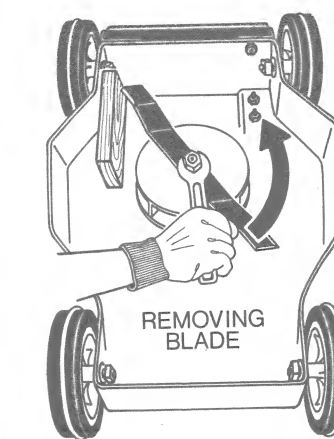
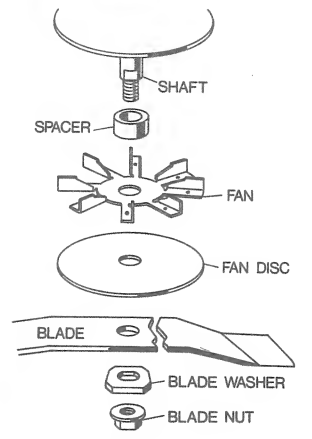

FIGURE 13
FIGURE 14
- (1) UNPLUG MOWER! (2) Wear gloves and place a piece of 2 x 4 wood in the position at back end of mower shown in Figure 13. (3) Push blade end against wood to keep blade from turning and turn blade nut with a wrench in direction of arrow to remove blade nut, blade washer and blade.
When installing a replacement or sharpened blade, be sure all parts are correctly positioned on shaft (Figure 14). Note that blade must be placed on shaft so that cutting edges are closest to ground. To tighten blade nut, place wood on opposite side of back end of mower to keep blade from turning. Tighten nut in opposite direction from arrow shown in Figure 13. Tighten nut firmly.